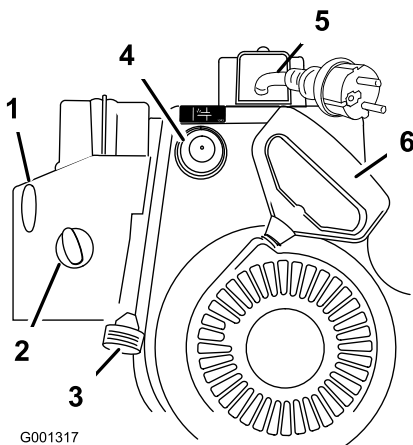

Figure 21
7. Start the snowthrower using the recoil starter or the electric starter (Figure 21).